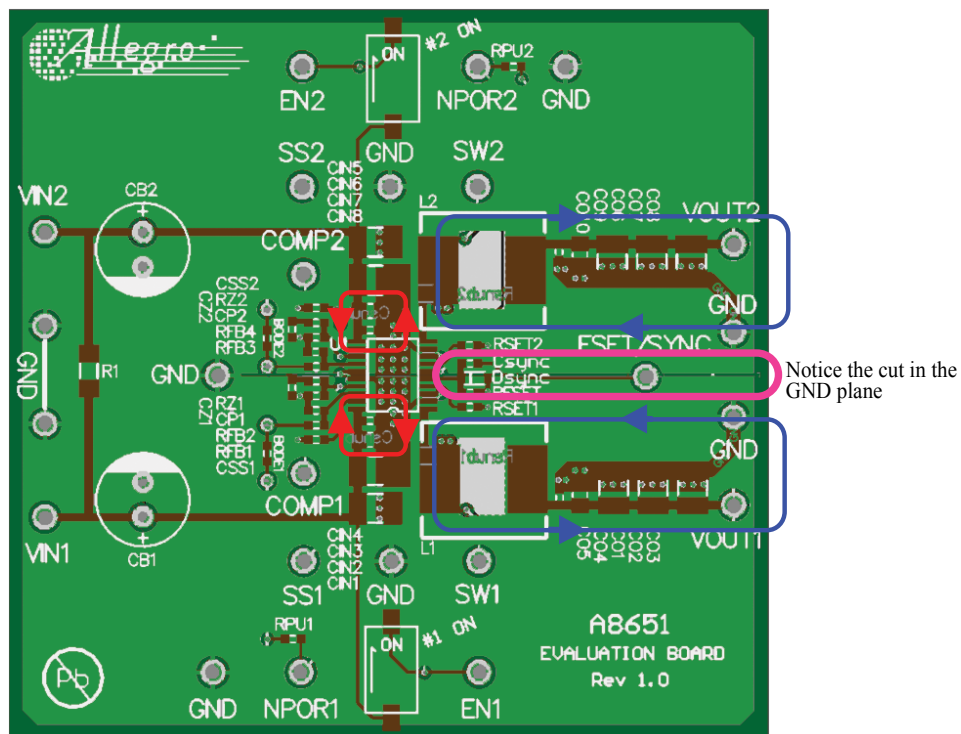

Figure 17: Example PCB Component Placement and Routing
12. Allegro strongly recommends the use of current steering (a cut in the ground plane) to prevent current from SW1 from disturbing SW2 and vice versa. Notice the horizontal cut in the ground plane as shown in Figure 17.